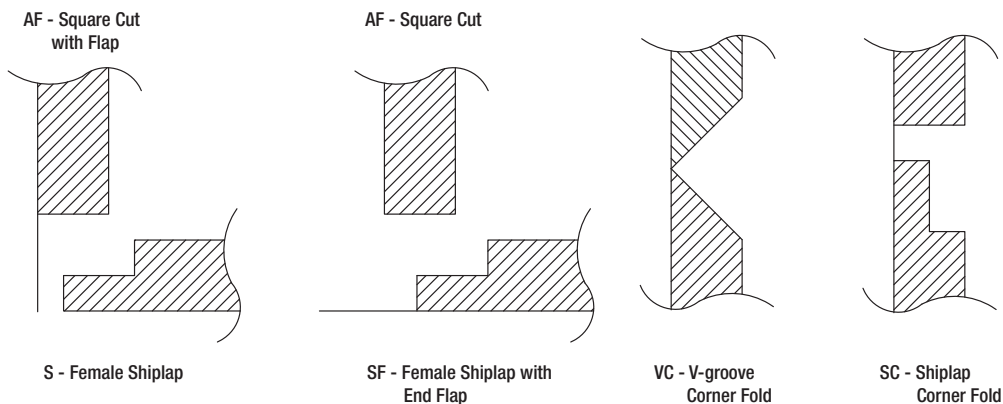

Figure 9
3. Edge and corner preparation shall be accordance with details shown (Figures 9 and 10). Plenum top shall be fabricated and attached using similar method, S-AF and SF-AF (Figures 9 and 10).